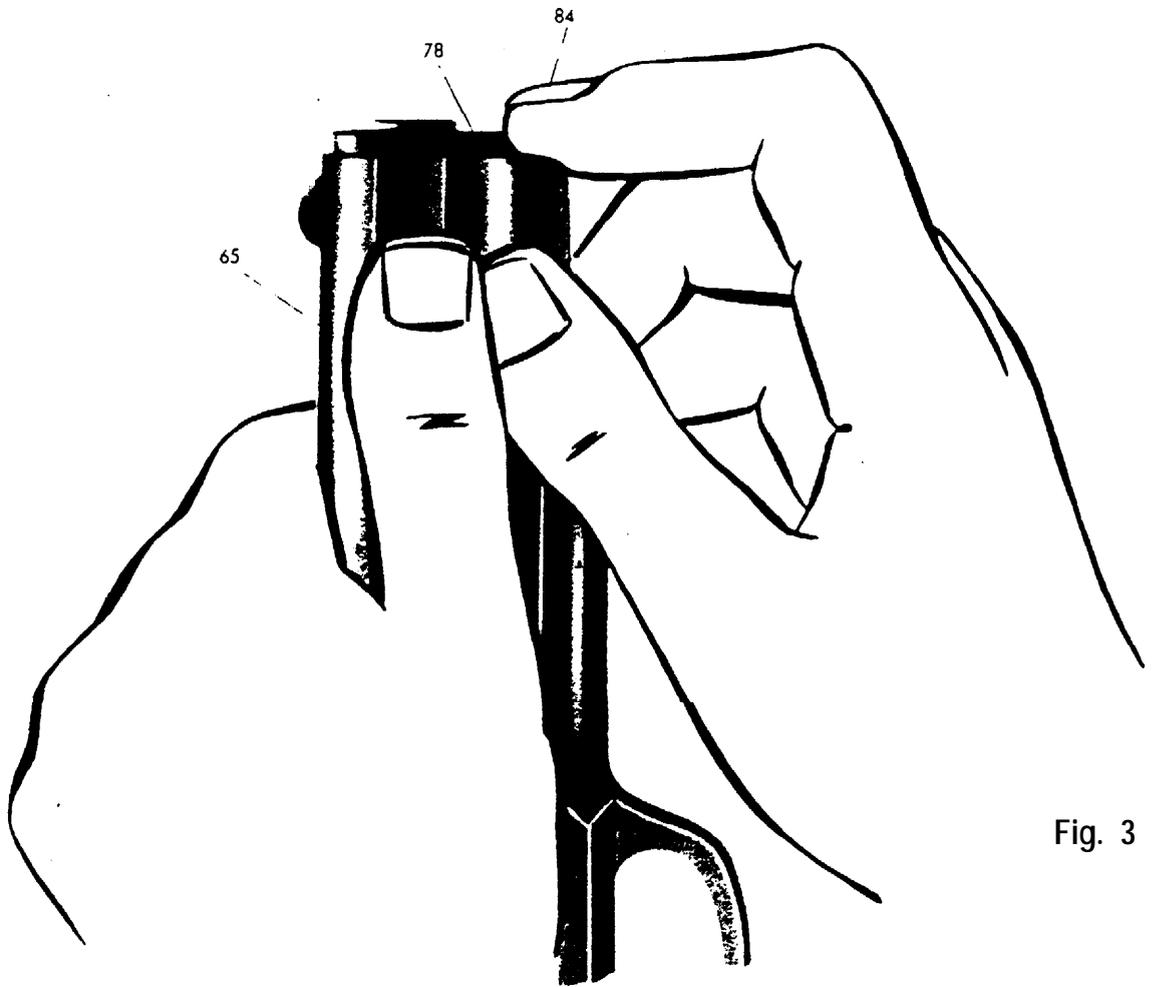

Fig. 3
1. First, check to be sure that there is no cartridge left in the firing chamber. Depress the magazine catch button (28) on the left side of the pistol back of the trigger, and withdraw magazine.
2. Push the recoil spring plug (84) below the barrel muzzle inward with the index finger of the right hand (or butt of magazine) far enough to permit the barrel bushing (78) which locks the barrel to be turned to the right until the plug goes forward under the tension of the recoil spring. (Care should be taken not to let the plug to jump away). (See fig. 3 and 4).
2. Push the recoil spring plug (84) below the barrel muzzle inward with the index finger of the right hand (or butt of magazine) far enough to permit the barrel bushing' (78) which locks the barrel to be turned to the right until the plug goes forward under the tension of the recoil spring. (Care should be taken not to let the plug to jump away). (See fig. 3 and 4).